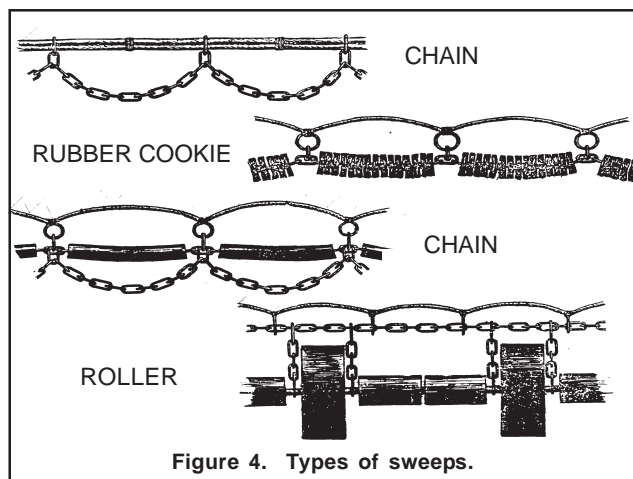

Figure 4. Types of sweeps.
Example: If the sweep has 80 feet of 1 inch wire, 25 feet of 3 inch rubber cookies and 15 feet of 5 inch rollers, record "Roller" (5) for SWEEP GROUND GEAR TYPE. See Figure 4.